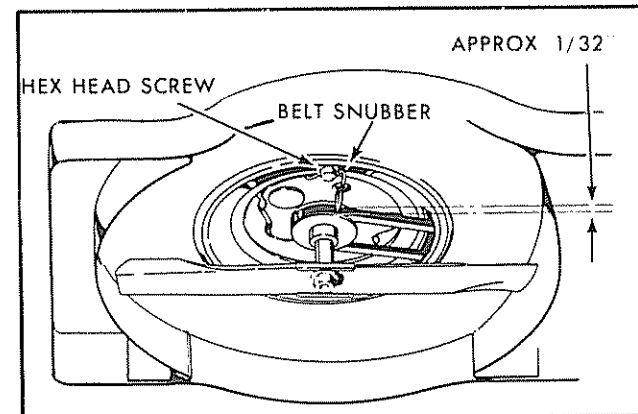

FIG 26
4. Loosen hex head screw holding belt snubber in place and move belt snubber away from pulley (See Fig. 26).
8. Move belt snubber back in place, approximately 1/32" away from belt and tighten hex head screw (See Fig. 26).